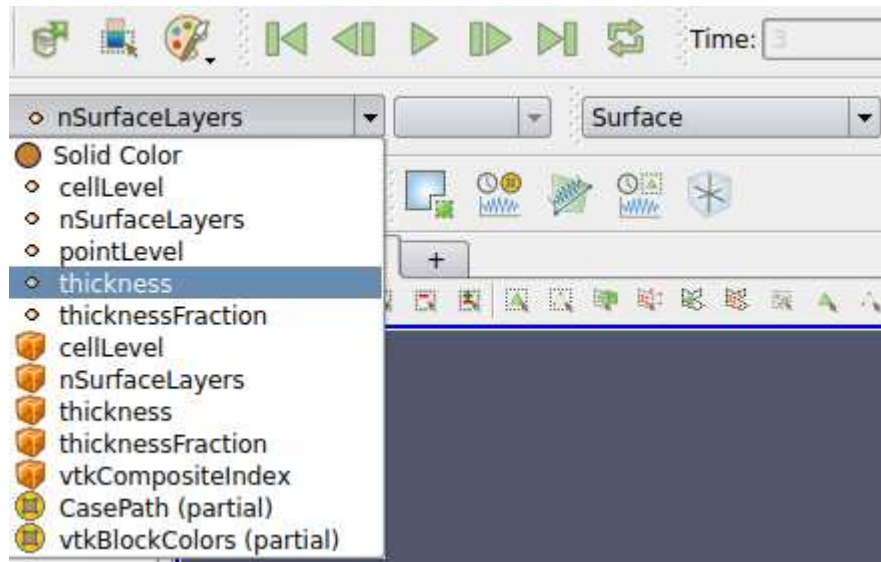

Figure 3.6: Active variables toolbar.
- 3) Select the "thickness" from "Active Variables Toolbar" (figure 3.6) and this should colour the surface of the Ahmed body with the thickness (the result is shown in table 3.1 and Appendix F).